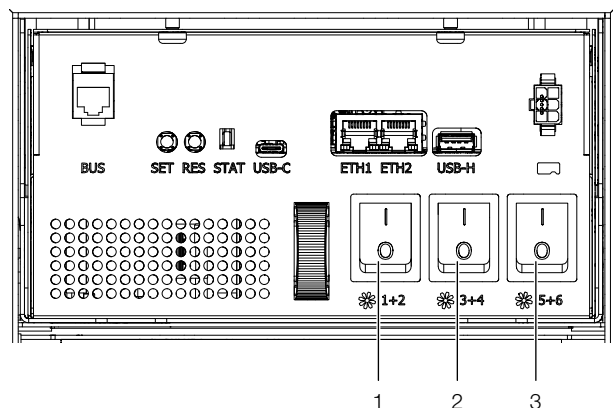

Fig. 48: Electronic module with master switch
On the LCP Inline Flush, On/Off switch 3 (fig. 48, item 3) is not assigned and therefore has no function.